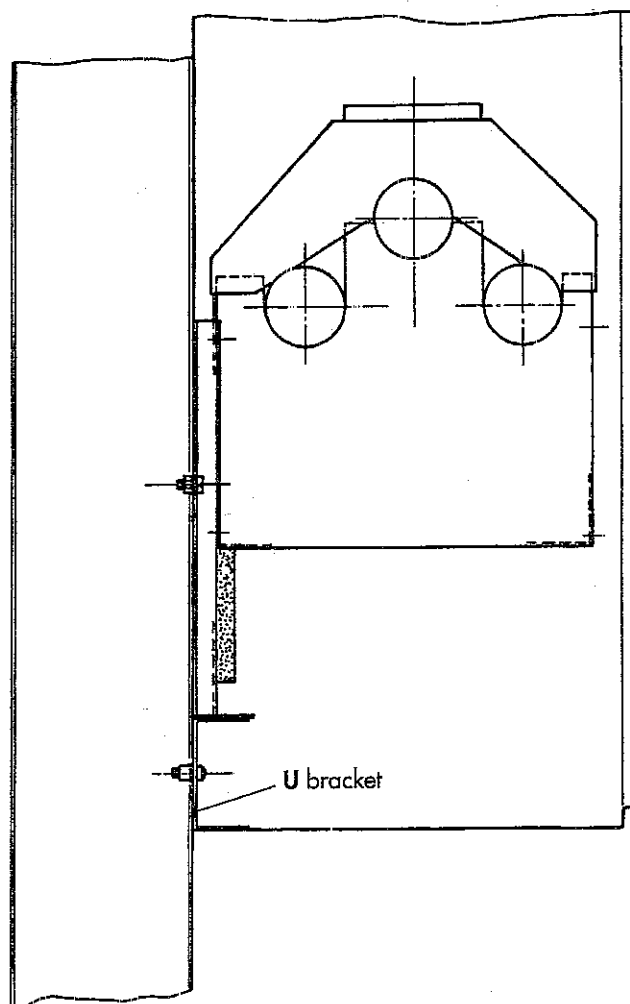

Fig. 50
- k) Remove the single screw from the «U» bracket below the combustion chamber (fig. 50) and remove bracket.
- d) Remove the single screw from the «U» bracket below the combustion chamber (fig 50) and remove bracket.